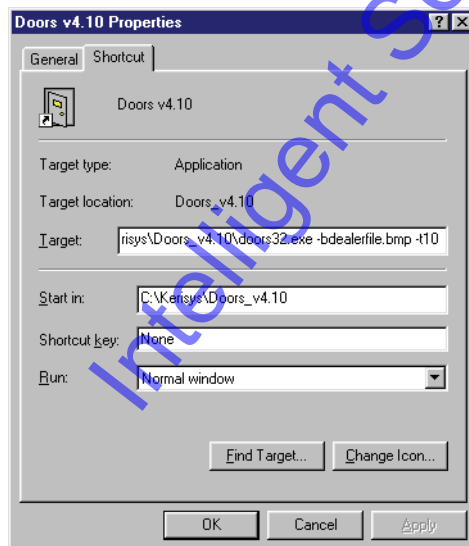

Figure 1-6: Doors Shortcut Properties Window with Splash Path and Display Time
- The default display time is set for 15 seconds. To change the display time, add the phrase “-txx” following “C:\Kerisys\Doors_v4.10\doors32.exe -bdealerfile.bmp” (xx must be a number between 01 and 30 which represents the length of time, in seconds, that the splash window will display). See Figure 1-6.